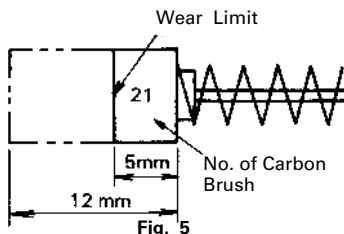

Fig. 5
4. Inspecting the carbon brushes (Fig. 5)